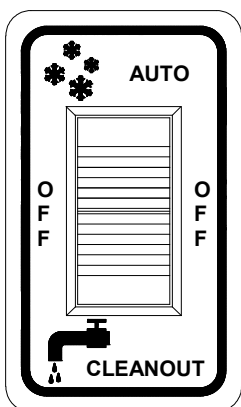
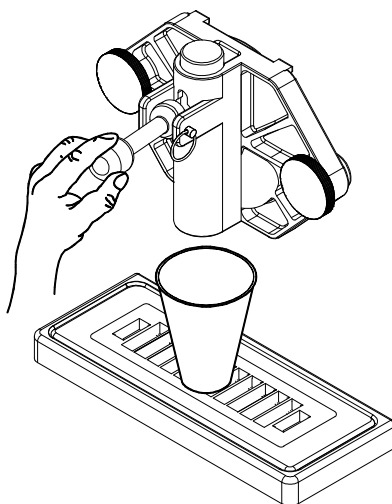

Fig. 6
Fig. 7
1. Fill the machine with cold water and set each control switch (Fig. 6) to the “**CLEANOUT**” position. **DO NOT** use hot water which could damage the machine. Let the machine agitate 1 to 2 minutes, then drain the water by pulling downward on the spigot handle (Fig. 7). Repeat the above procedure as necessary to make certain all product is removed from the machine. After the machine is empty, set the control switch to the “**OFF**” position.
4. Set the control switch (Fig. 6) to the “**CLEANOUT**” position and agitate for approximately 1 to 2 minutes and then drain the water by pulling down on the spigot handle (Fig. 7). After the unit is empty, set each control switch to the “**OFF**” position.